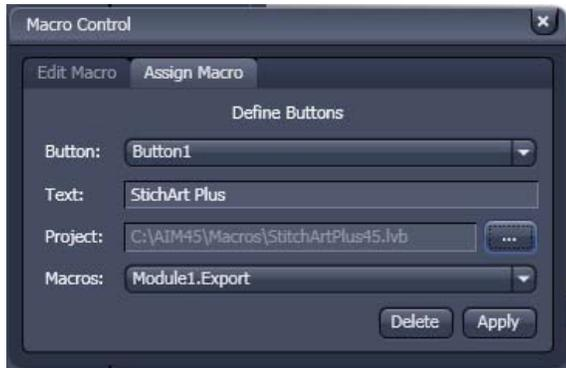

Fig. 5-8 Macro Control window – Assign macro to button
- Press the **Assign Macro** tab to switch to the **Assign Macro** panel (see Fig. 5-8).